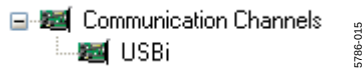

Figure 15. Adding the USBi Communication Channel
- a. Click **USBi** to add a USBi component from the **Communication Channels** subsection of the toolbox (see Figure 15).